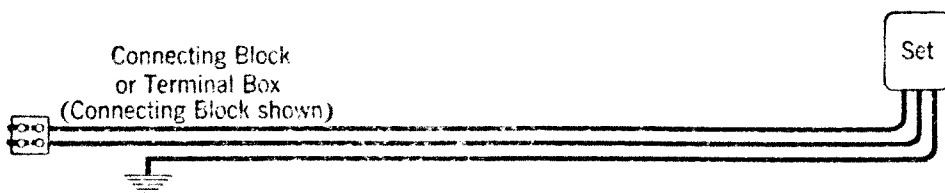

Fig. 5.
5.08 If ground is nearer connecting block than set but between the block and set, use a two-post connecting block. Use triple wire from set to block. Untwist yellow or double tracer conductor and run to ground connection as shown in Fig. 5.